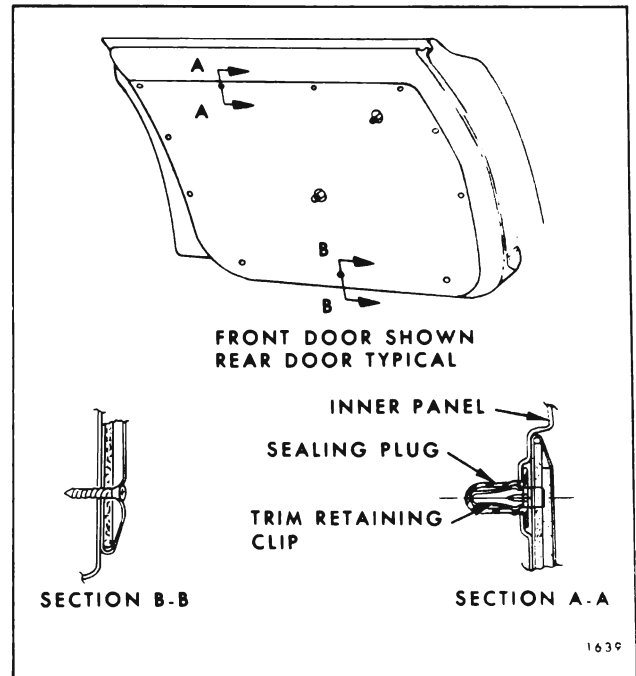

Fig. 14-17—Door Trim Pad Retention
3. Carefully insert tool J-6335, or an equivalent flat-bladed tool, between door trim assembly and door inner panel at retaining clip locations and disengage clips from plastic sealing plugs. (Fig. 14-17).